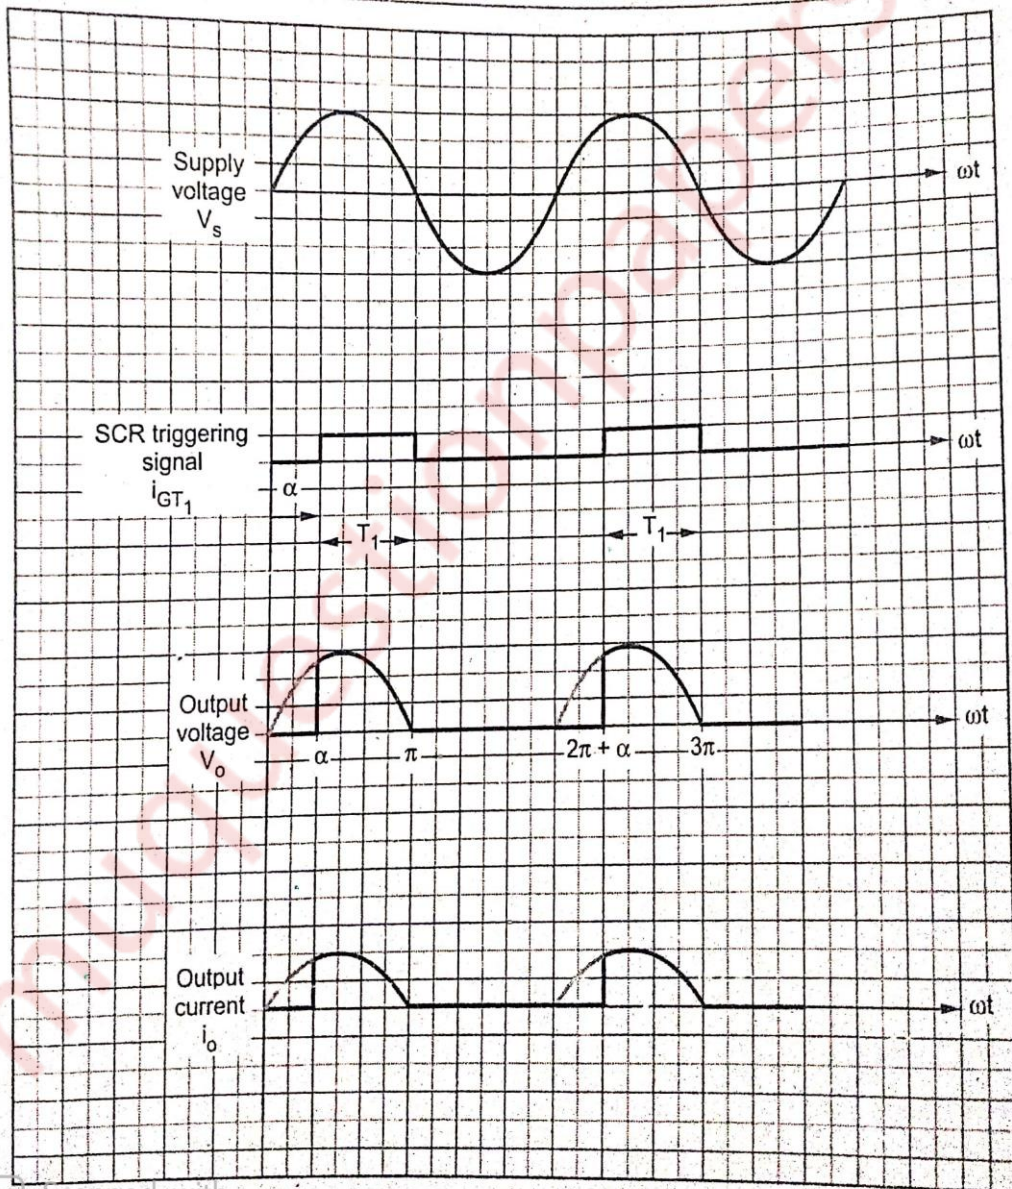

Fig. 2.2.2 Phase control principle as applied to half wave controlled rectifier
3) The primary of the transformer is connected to the mains supply. In the positive cycle of the supply, T_1 is forward biased. T_1 is triggered at an angle α . This is also called as triggering or firing delay angle. T_1 conducts and secondary (i.e. supply) voltage is applied to the load. Current i_o starts flowing through the load. The output current and voltage waveforms are shown in fig. 2.2.2.